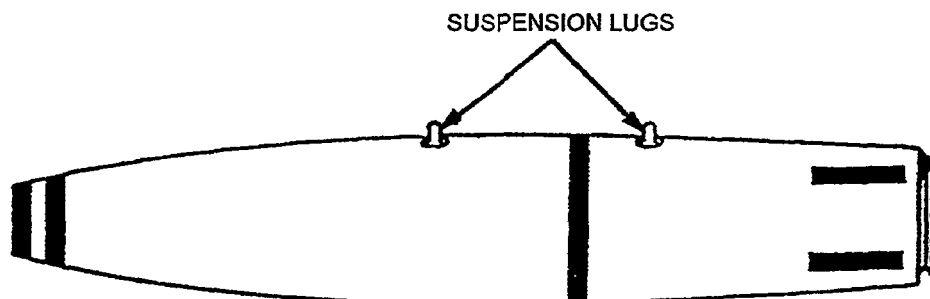

Figure 4-9A. Suspension Lug Installation
- b. Verify suspension lugs are screwed into lug wells until outer edge of bottom of lug eyes are flush with bomb body. In some cases, lugs may not screw flush; this is acceptable as long as there exists a 3-1/2 thread engagement (Figure 4-9A).